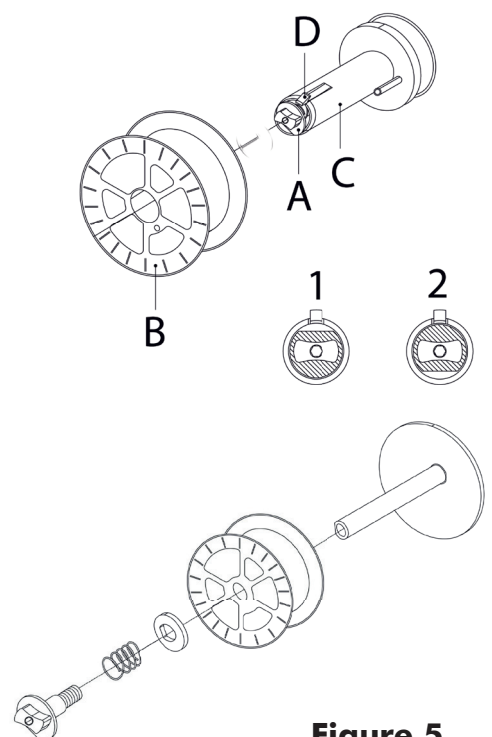
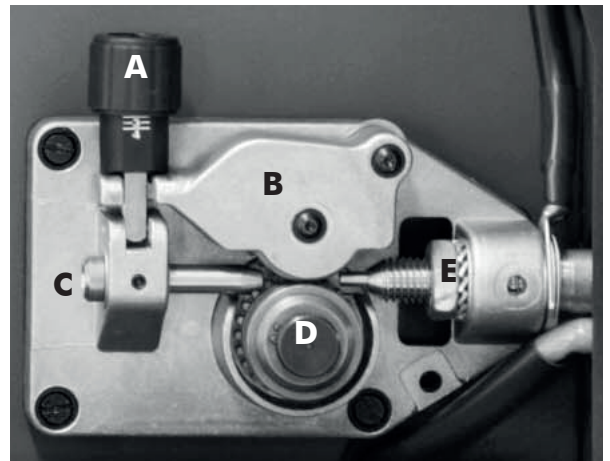

Figure 5
Figure 6
- Loosen the nut (A) of the spool holder (position 1) (brake drum). In the case you are replacing the wire spool, extract it by pushing the snap tongue (D) (Fig 5). Remove the plastic protection from the spool. Place it on the spool holder. Tighten the lock nut (A) turning it to position 2. (Fig. 16).
- Remove the wire spool (B) from the spool holder (C).
- Loosen the nut (A), remove the spring and the washer; remove the spool holder (C) from the pivot.
- Tighten the lock nut (A).
**Tighten nut (A) to appropriate tightness. Excessive pressure strains the wire feeding motor. Too little pressure does not allow the immediate stop of the wire spool at the end of the welding.**
- Loosen and lower the plastic knob (A) (Fig.6). Open the pressure arm (B) of the feeder. Extract the wire from the torch liner.